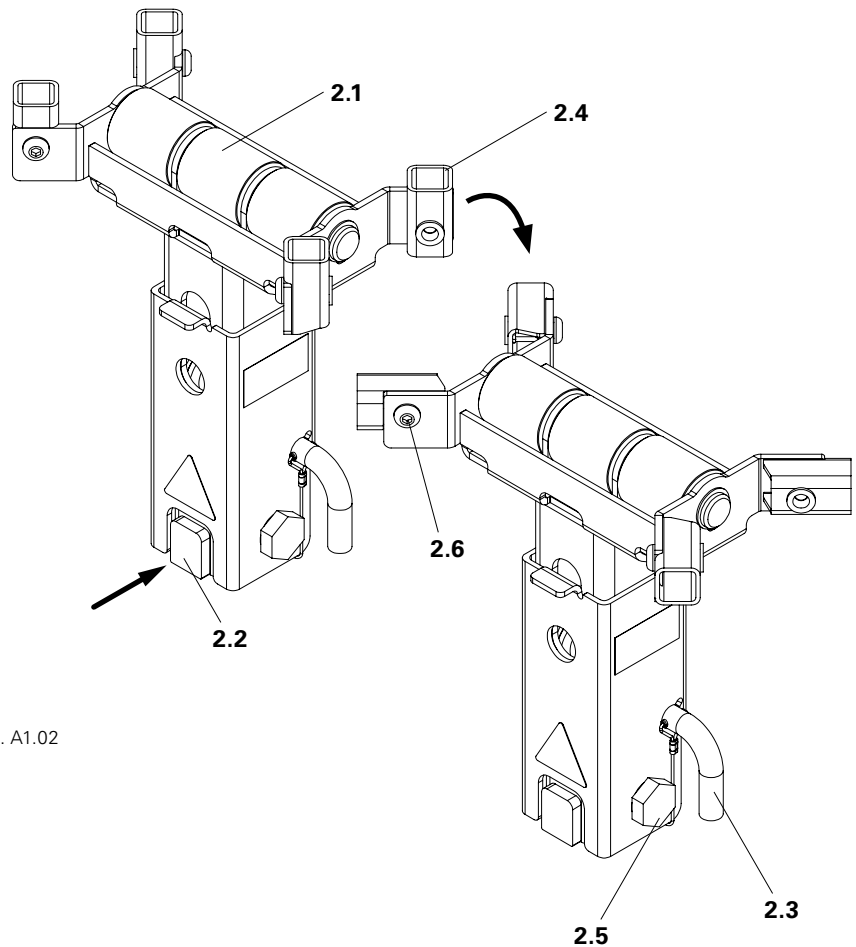

Fig. A1.02
- (Fig. A1.02 + A1.03)
To swing outwards, loosen the fixing bolts (2.6) and pivot the guide nose downwards. (Fig. A1.02)